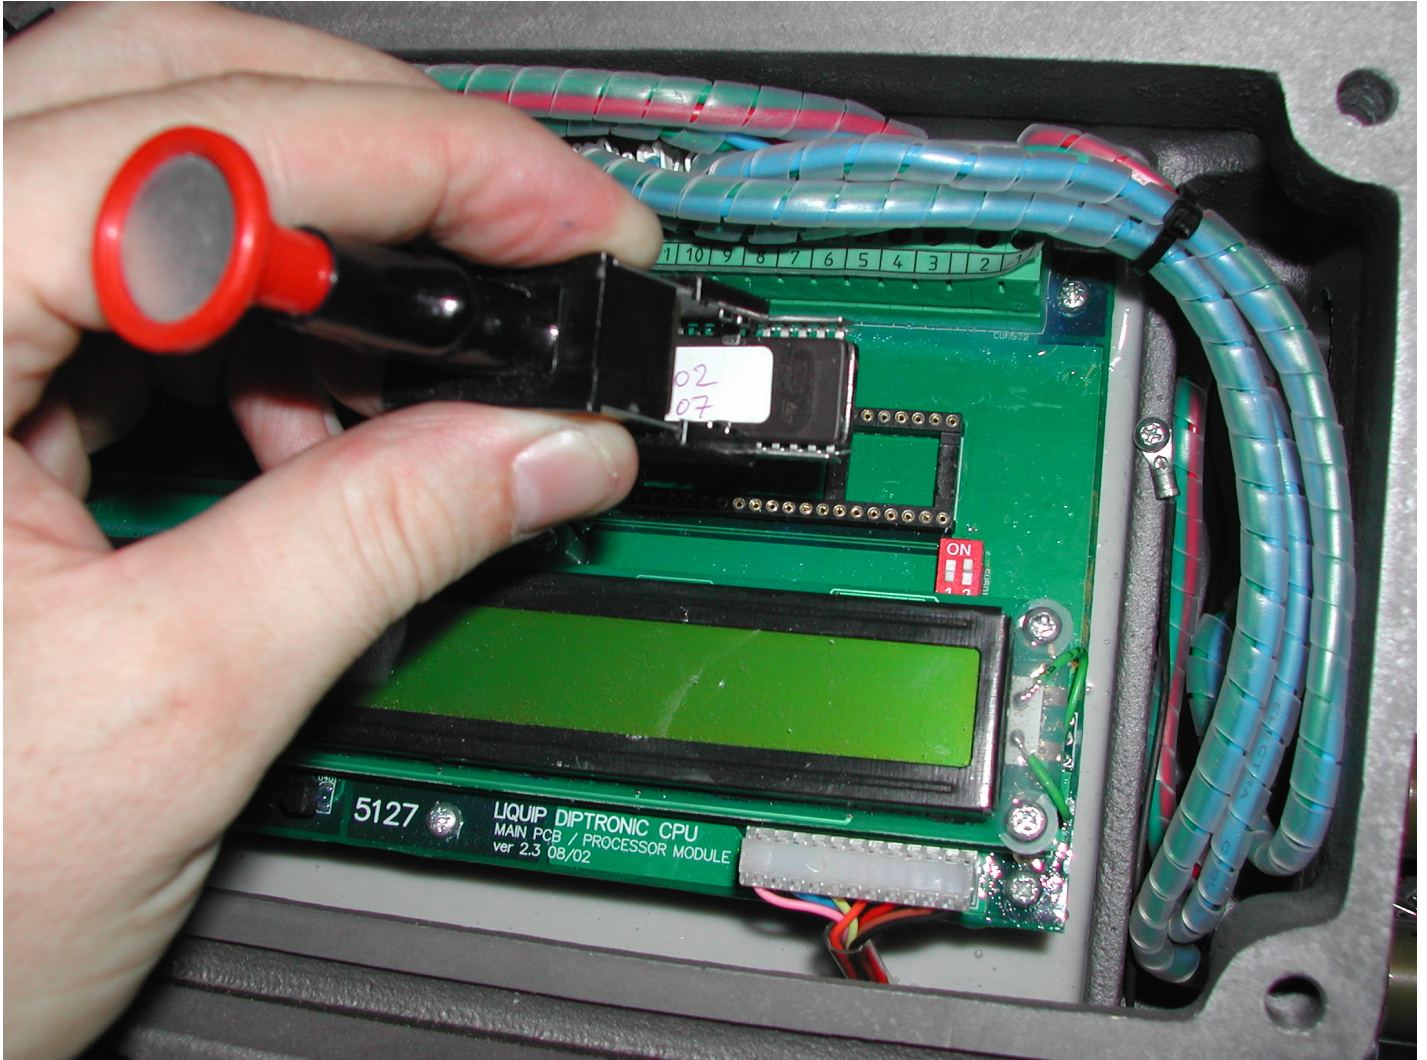

Figure 2— Remove EPROM via dedicated EPROM removal tool.
9. Remove EPROM from the CPU using dedicated EPROM removal tool (by approved electrical technician). Refer figure 2.